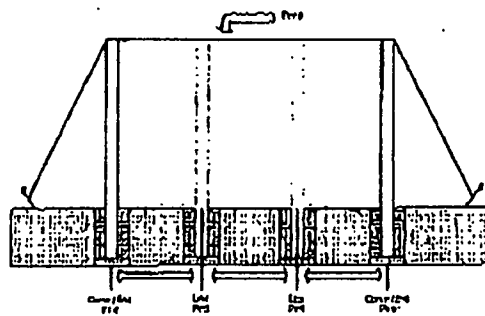

FIG. 3
Step 1. After the corner and end post footings have hardened enough for the posts to remain stable, stake and stretch a string line taut across the tops of the posts to mark the desired height of the line posts (fig. 3).